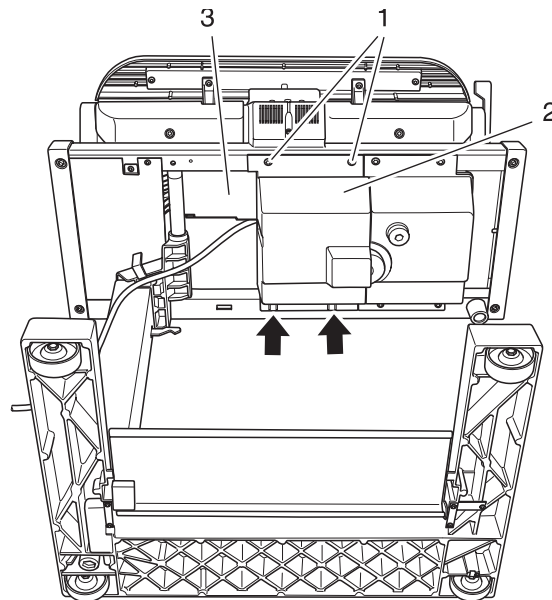

Fig. 24
- Lay the steam ironer face-up on the floor (fig. 24).